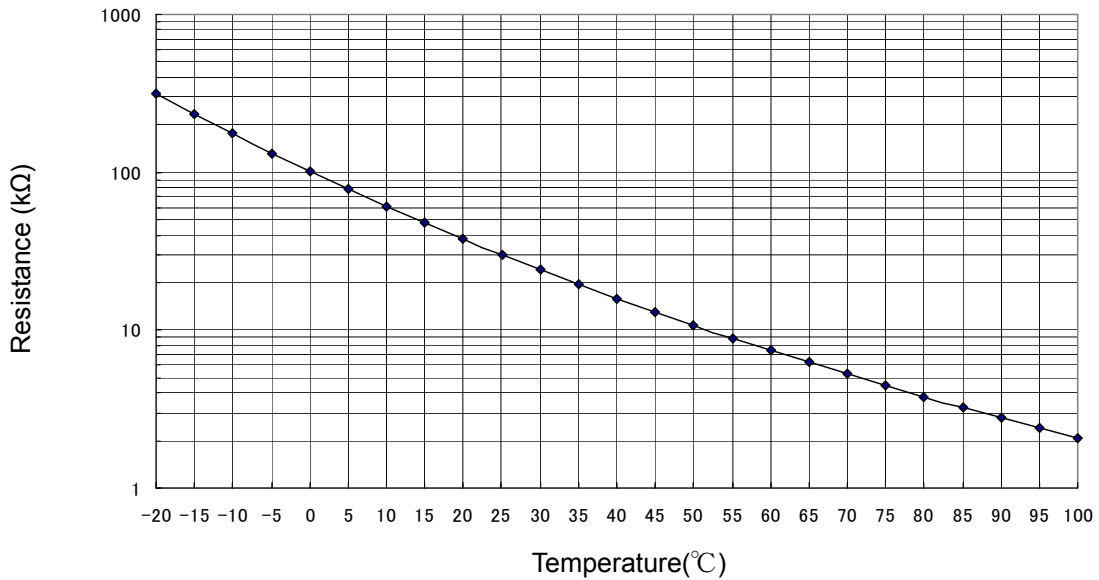

Figure 3-11 Thermistor Resistance vs. Temperature
Calculate the resistance of the thermistor (R_x) at the operating temperature T_x ($^{\circ}\text{C}$) using the following equation (9). Variation of resistance by temperature is shown in Figure 3-11 and Table 3-15.